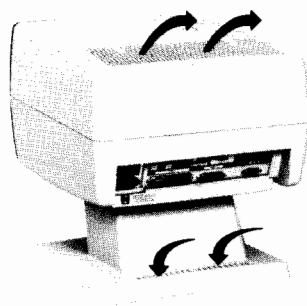

Figure 2-2. Cooling Airflow Through the Terminal
1. Place the terminal on any sturdy, convenient surface such as a desk, table, or stand designed for such a purpose. Avoid plush or spongy surfaces that might restrict the flow of air through the vents in the base of the terminal (figure 2-2). For example, do not use a typewriter pad beneath the terminal.